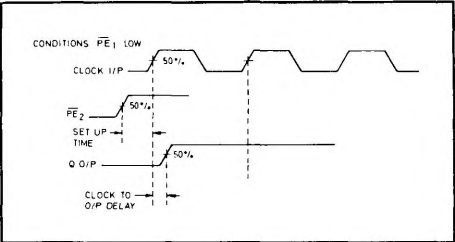

Fig. 3 Set-up timing diagram
- 5 Set-up time is defined as the minimum time that can elapse between a L $\rightarrow$ H transition of a control input and the next L $\rightarrow$ H clock pulse transition to ensure that the ± 10 mode is forced by that clock pulse (see Fig. 3).